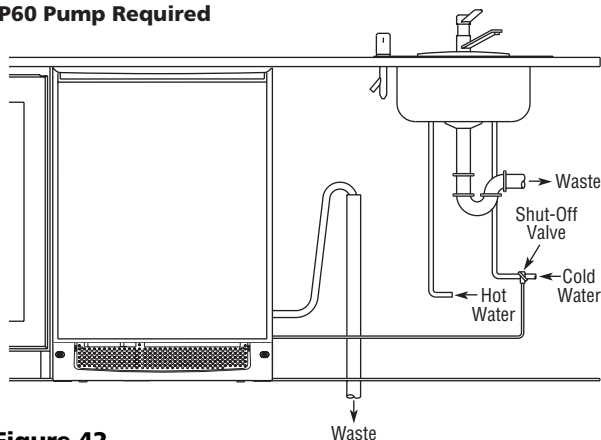

Figure 42
If your drain line will run up to a stand pipe, disposal assembly or spigot assembly or does not otherwise meet the requirements for a Gravity Drain, you may have ordered the CLR2160 or CLRCO2175 with a U-Line P60 Drain Pump. See **Figures 42, 43 and 44** for typical installations requiring a Drain Pump. If you need to install a P60 Drain Pump into your unit, see *Locally-Installed Drain Pump* on **Page 17**.
9. After unit is in its final position, finish routing drain tube to the desired location. Common installations use a floor drain, standpipe, garbage disposal, or Y-branch tailpiece type drain connection (see **Figures 42, 43 and 44**).